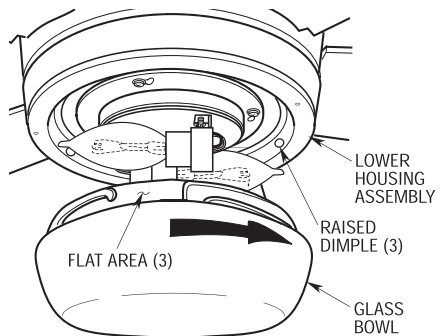

Figure 17
- 8. Place the glass bowl into the opening in the lower housing assembly, aligning the three flat areas on the top edge of the glass with the three raised dimples on the lower housing assembly and turn the glass bowl clockwise until it stops (Figure 17).